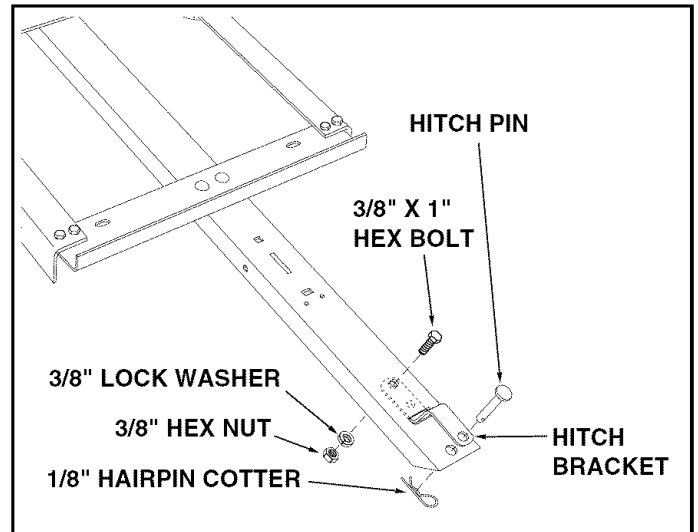

FIGURE 6
- Assemble the hitch bracket down through the slot in the tongue and fasten it to the tongue using a 3/8" x 1" hex bolt, a 3/8" lock washer and a 3/8" hex nut. **Tighten.** See figure 6.
- Assemble the hitch pin and 1/8" hairpin cotter to the hitch bracket and tongue. See figure 6.